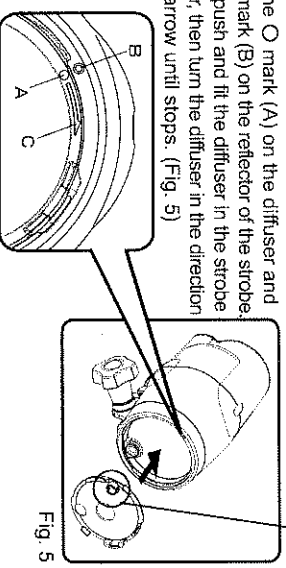

Fig. 5
Align the O mark (A) on the diffuser and the ◎ mark (B) on the reflector of the strobe. Lightly push and fit the diffuser in the strobe reflector, then turn the diffuser in the direction of the arrow until stops. (Fig. 5)